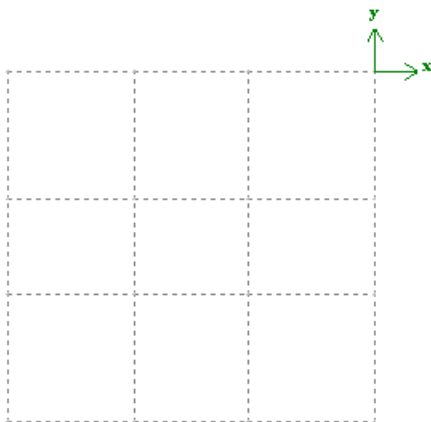

Figure 1.3.2 Move origin
- ⇒ When this mode is active, click the upper-right node of the grid (see Fig.1.3.2).